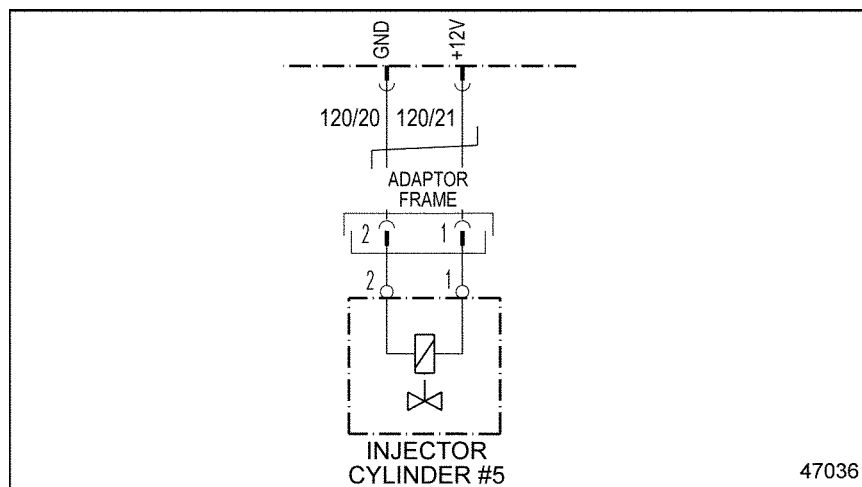

Figure 28-1 **Injector #5**
4. Measure the voltage between pins 1 and 2 of injector #5. See Figure 28-1.